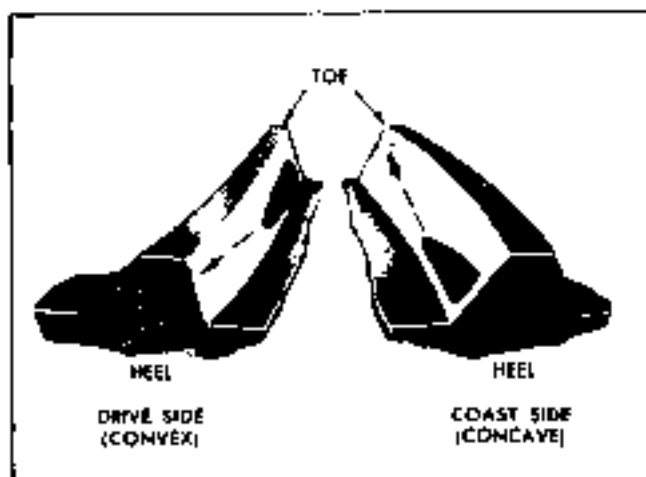

Fig. 4A-22 Effect on Pattern - As Shim Decreased
8. Pontiac-Remove two ring gear to case assembly bolts. Install ring gear and case remover J21322, left hand bolt and sleeve set J 22042 and slide hammer J 2619 (Fig. 4A-23).